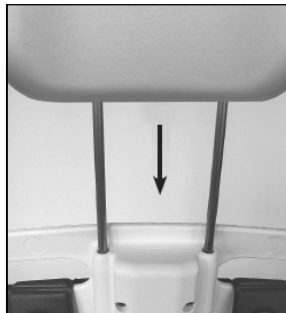

Figure 15
1. Insert the rods on the headrest into the holes at the top of the backrest (Fig. 15). The headrest can be adjusted to the desired height.